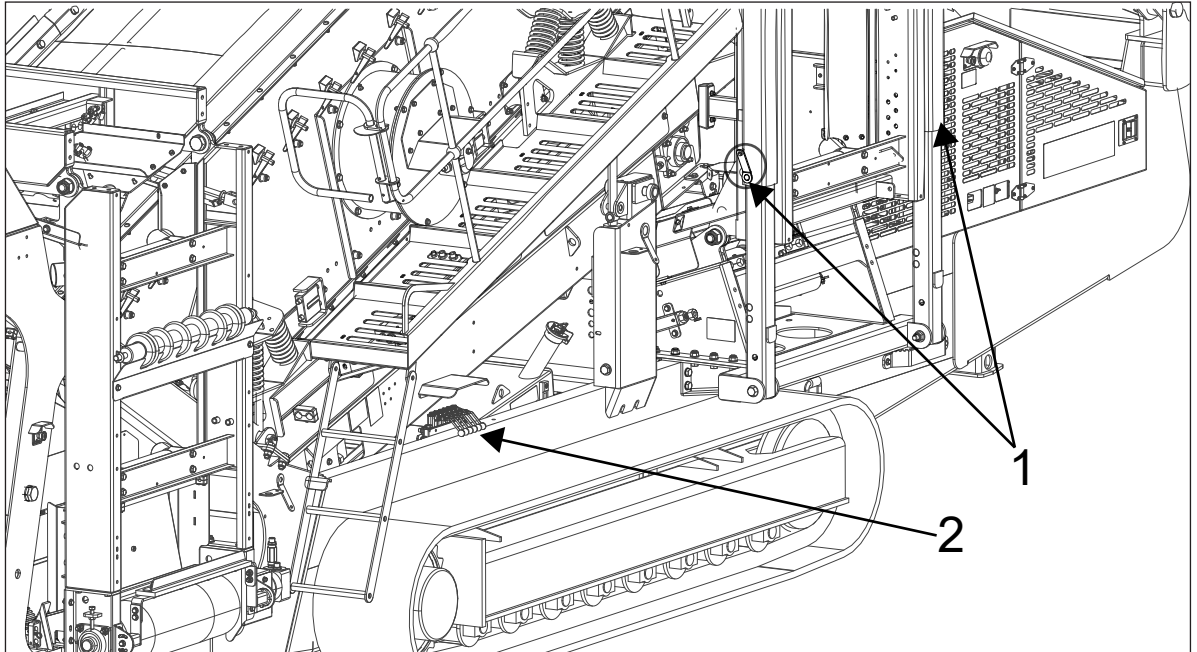

Figure 4.78 - Side Conveyor Pins
7. Remove the pins securing the bottom section of the conveyor (Reference: Figure 4.78)